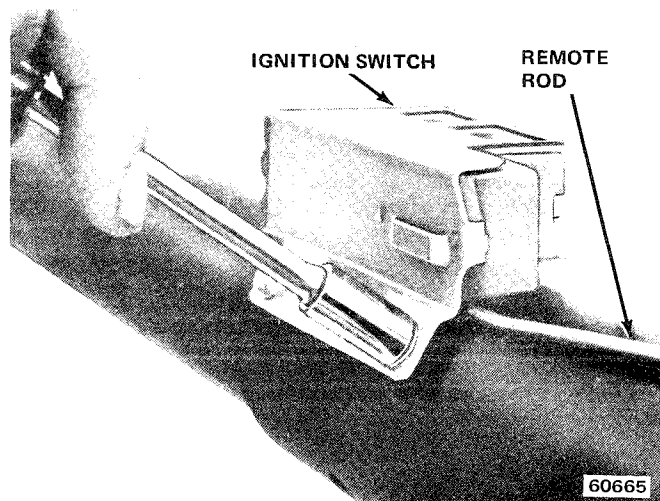

Fig. 2J-9 Ignition Switch Removal/Installation
(20) Remove screws attaching housing and shroud to column jacket (fig. 2J-10) and remove housing and shroud.
(21) Disengage remote rod from lock rack.